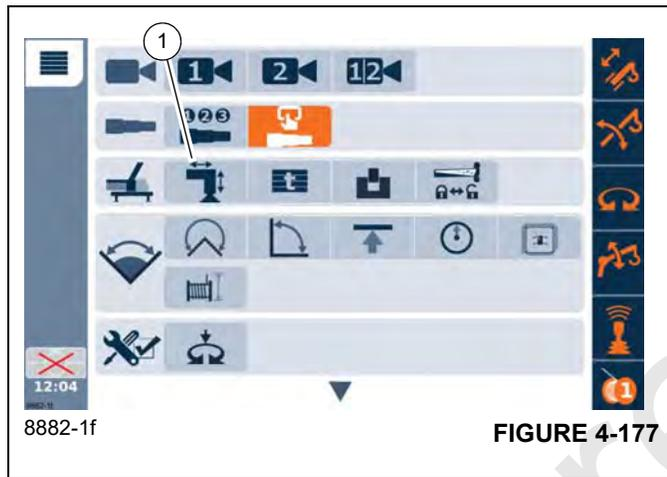

FIGURE 4-177
Select the Outrigger Extend/Retract Icon (1), (Figure 4-177) under the Crane Function Group to show the Outrigger Extend/Retract function screen.